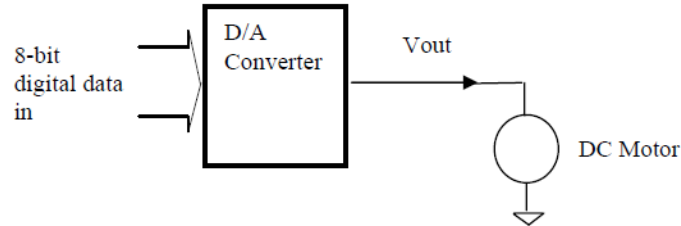

Figure 6B
- 6B.** The **Figure 6B** shows a D/A (digital to analog) converter which drives a dc motor. Assume the power stage is included in the D/A converter so that the motor can be driven directly by Vout. An 8051 microcontroller has this D/A converter connected to an I/O port P1. The 8051 is connected to a Computer via the serial port. When 8-bit data character is received from the Computer, it interrupts the 8051 through the 8051's serial port interrupt and the received 8-bit data value is passed to the D/A converter so that the Computer is effectively controlling the motor speed. Write an 8051-assembly language program to implement this system. Assume a serial data baud rate of 9,600 baud.